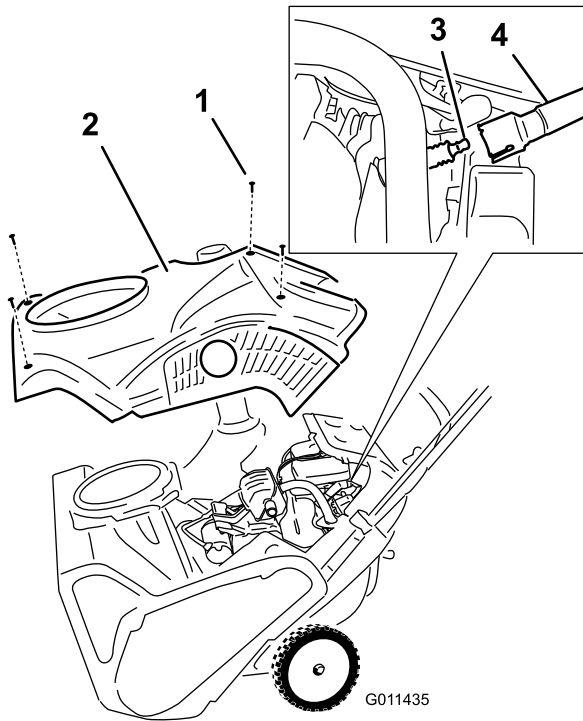

Figure 32
2. Large screws (3)
- Remove the 4 screws that secure the shroud (Figure 32).
- Remove the shroud (Figure 32).